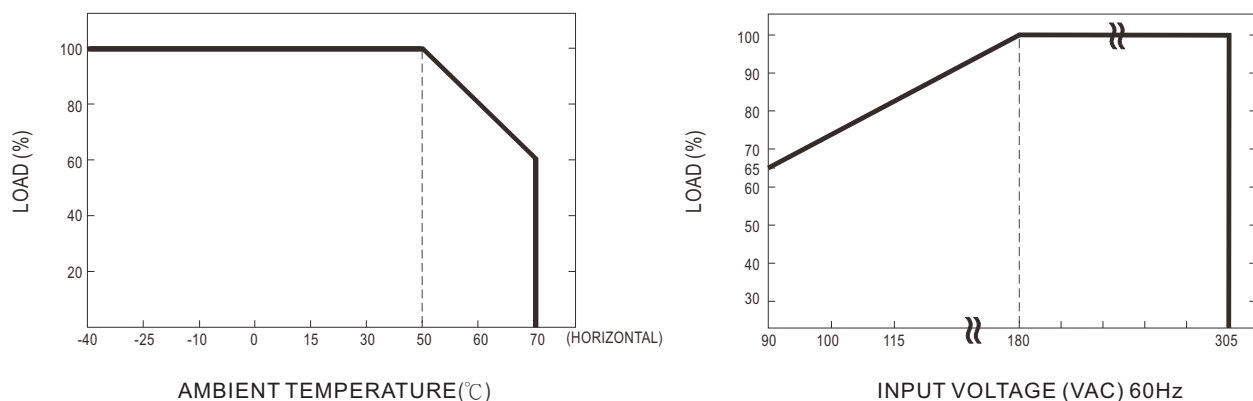

Figure 5-1 Output derating curves
- Ⓞ When HEP-1000 is operating at a lower AC input voltage, it will de-rate its output current automatically to protect itself, shown as Figure 5-1.